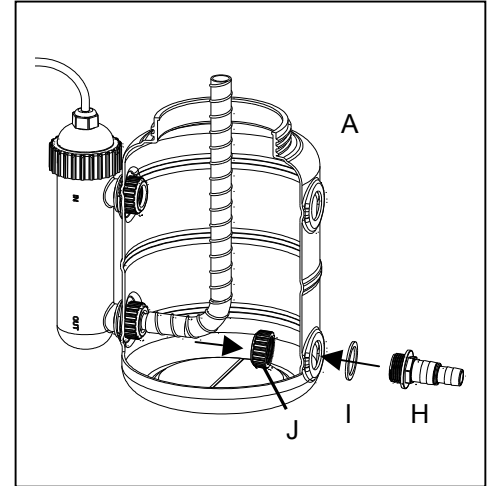

Fig. 2
2. Assemble the locking ring, adapter and gasket. Fig. 2